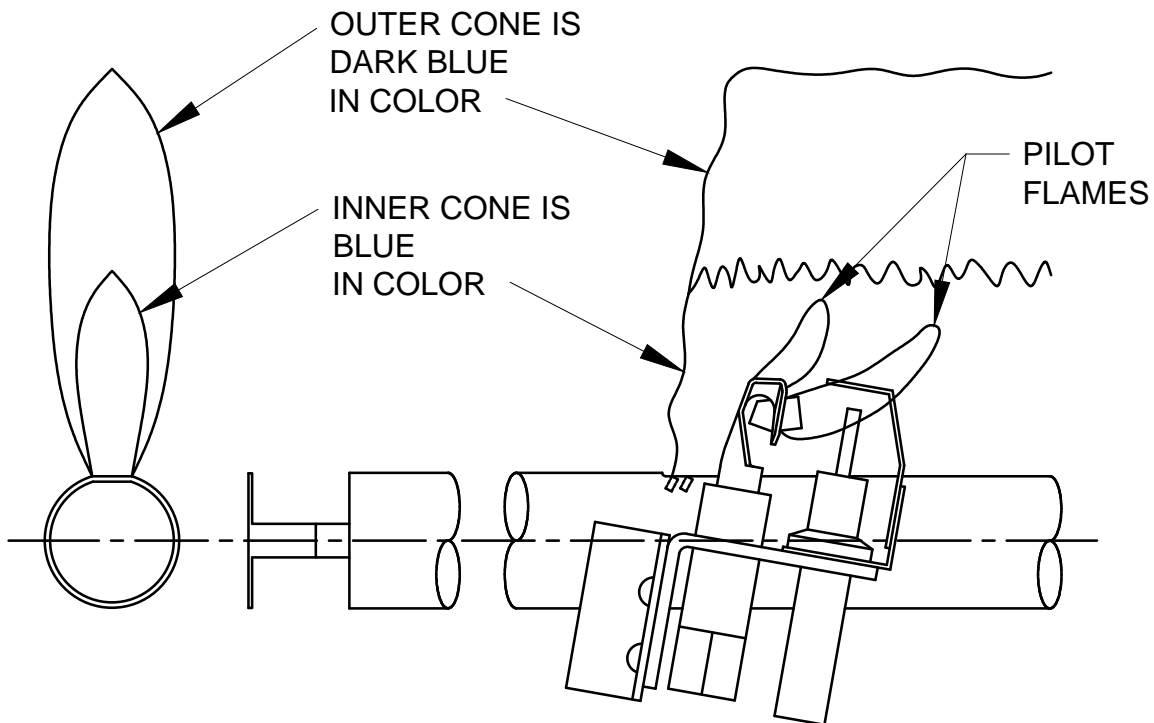

Figure 9.1: Intermittent Pilot and Main Burner Flame
- 3. Check the pilot and main burner flame. See Figure 9.1. The pilot should provide a steady flame enveloping 3/8" to 1/2" (1 cm to 1.2 cm) of the flame sensor. If required, adjust the pilot as stated in the gas valve manufacturer's instructions. The main burner flame inner cone should be approximately 1-1/2" (4 cm) high and should have a very sharp, blue color characteristic. On LP gas models equipped with air shutters, see Section 7 and Figure 7.9 for checking and adjusting air shutters.